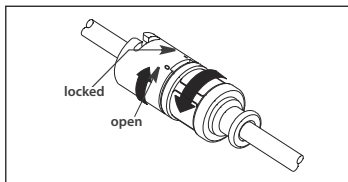

Figure 3
- If using a catheter contamination shield with TwistLock™ adapter (where provided), ensure double TwistLock of catheter contamination shield is fully opened (refer to Figure 3).